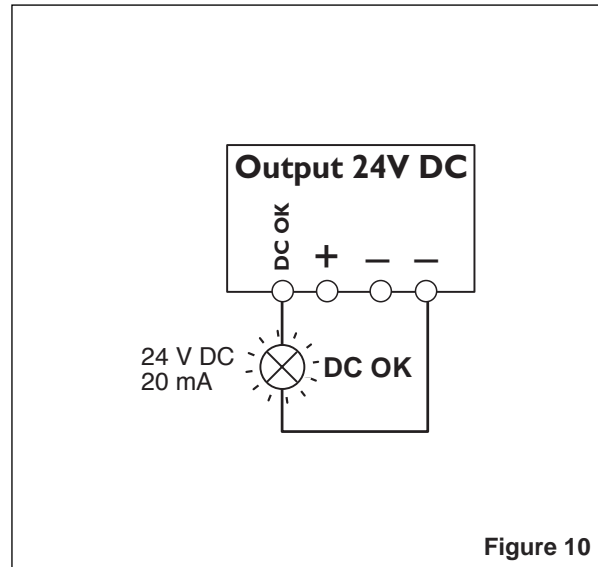

Figure 10
Active signal output (③ , Figure 10)